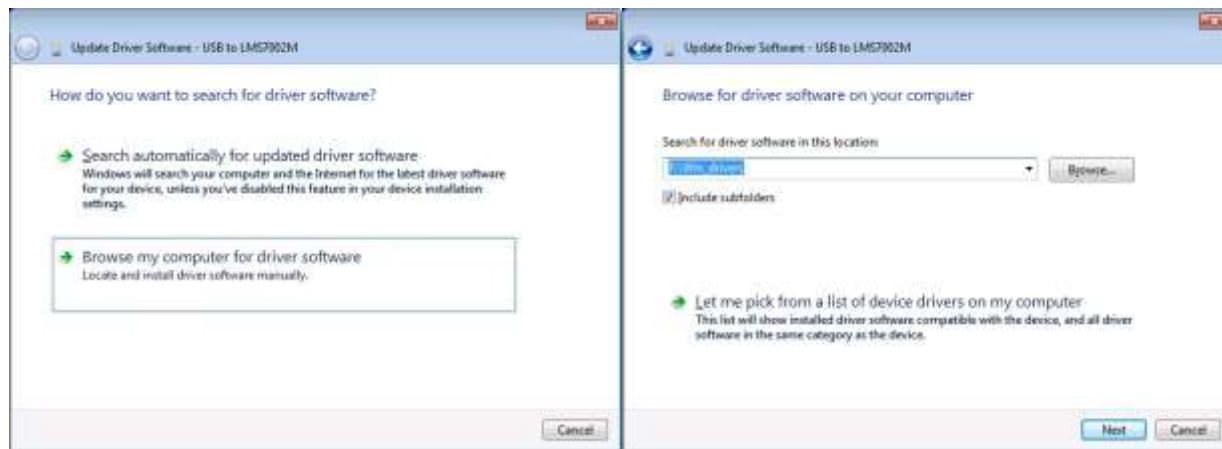

Figure 5 Update Driver Wizard.
5. Select **Browse my computer for driver software**, locate the driver provided with EVB7 board and press **Next** (Figure 5)